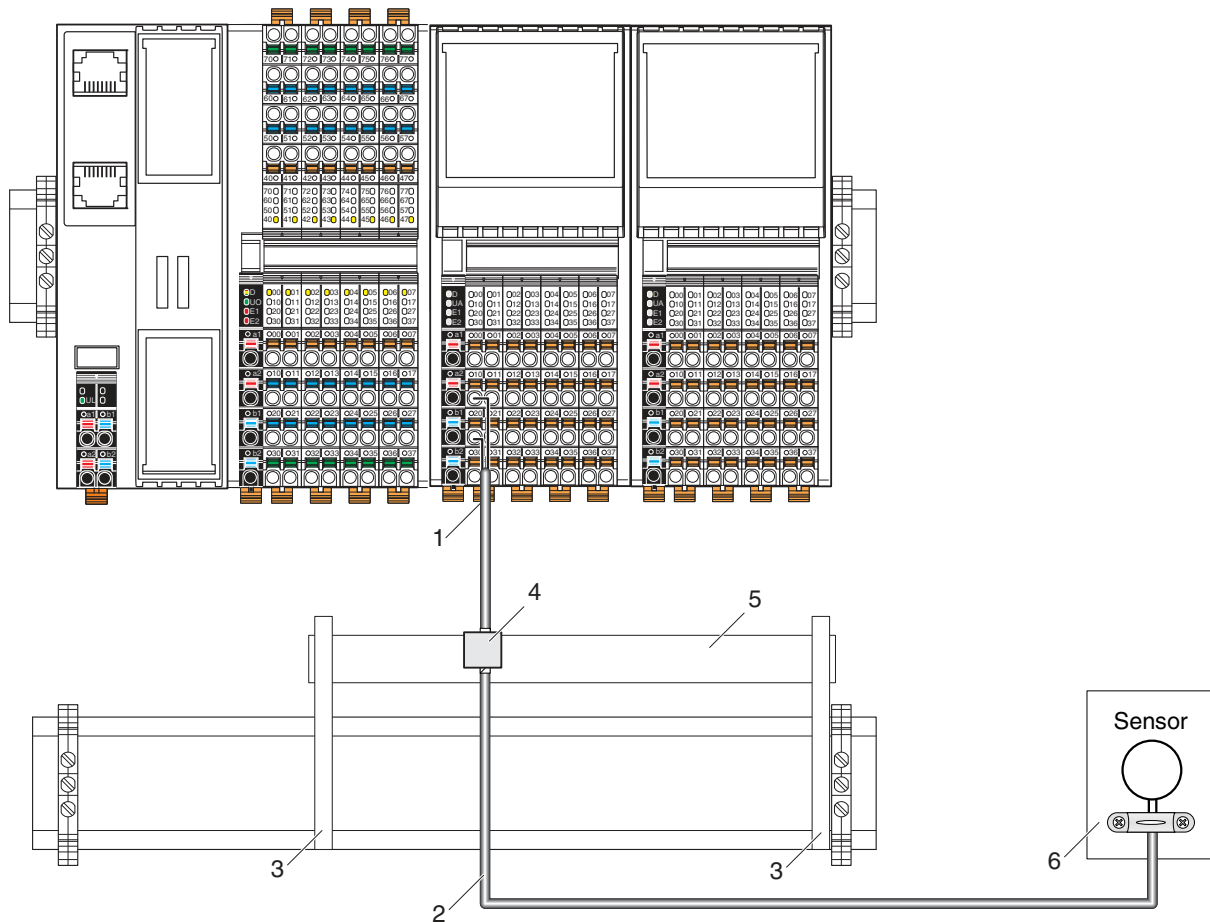
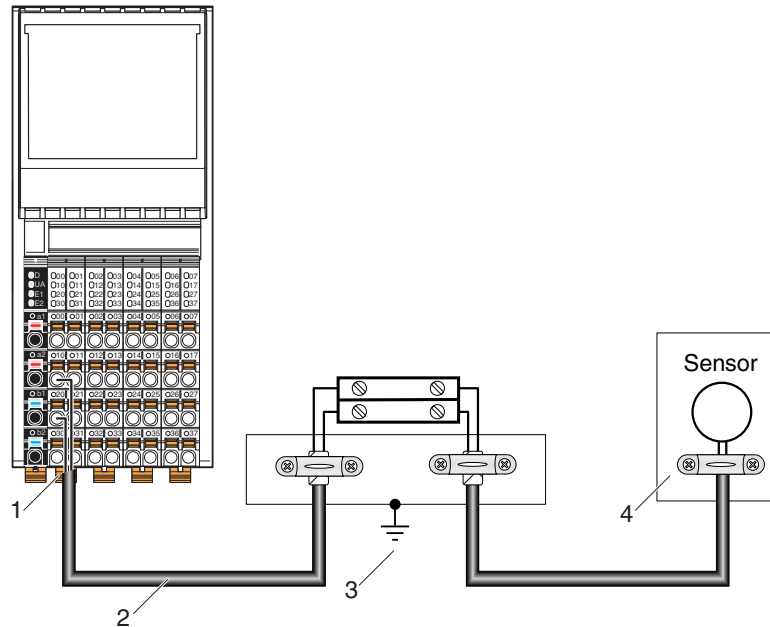

Figure 7-9 Connecting the shielding to a busbar
Figure 7-10 Integration of analog shielding in a concept with central equipotential bonding at the control cabinet entry
- Connect the shield via a shield bus. (See Figure 7-9)
- As a rule, shielding must only be connected directly to the PE potential on one side. This is to prevent any occurrence of equipotential bonding currents via the shielding (see Figure 7-9 and Figure 7-10).
- If necessary, integrate the shielding concept for analog I/O cables in the system concept. For example, it is advisable to use a central FE shield connection at the control cabinet entry (see Figure 7-10).